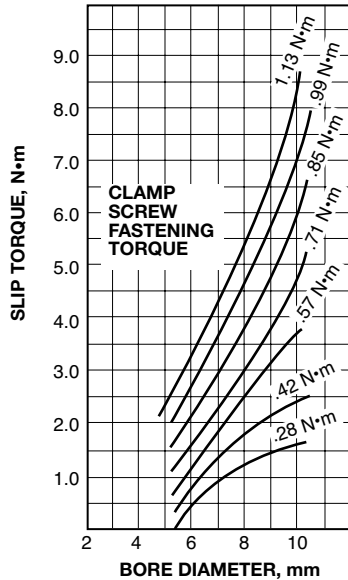

Figure 4
**Figure 4** compares the slip torques for different values of the clamping screw fastening torques.